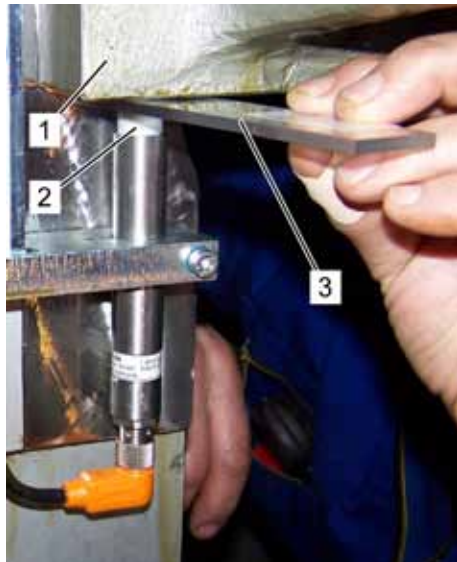
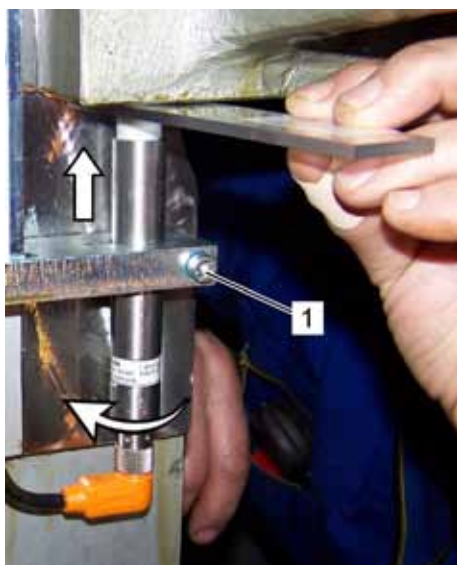

Fig. 39: Calibrating sensor
Fig. 40: Adjusting sensor
8. Insert the calibration tool (Fig. 39/3) between crosshead (Fig. 39/1) and sensor tip (Fig. 39/2).
The illustrations in Fig. 39 and Fig. 40 show a profile type sensor bracket. The procedure is the same as for adjusting the tube type sensor brackets.
9. Clamp the sensor by tightening the clamp screw (Fig. 40/1).